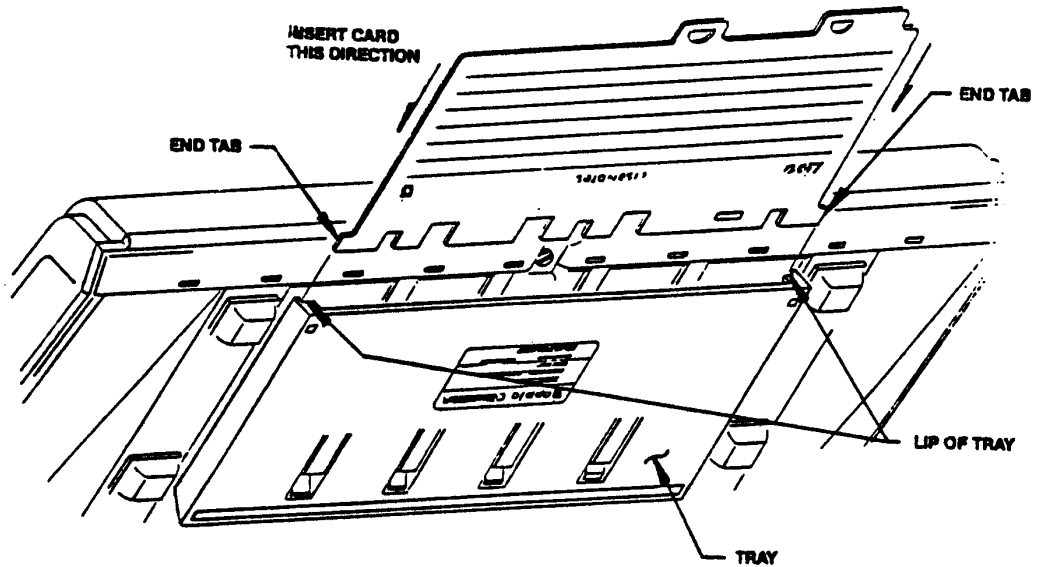

FIGURE 1
- a) Hold the card upside down as shown in Figure 1, with the blank side facing you and the end tabs next to the keyboard.
- a) Prop up the keyboard so that the bottom is facing you (see Figure 1).